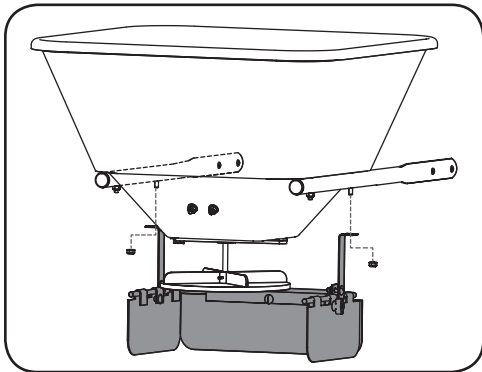

Figure 2-9
- Line the deflector up so that the opening in the deflector plates faces backward. Secure the deflector to the front hopper/frame tube bolts with two hex nuts from hardware pack 3032810. See Figure 2-9.